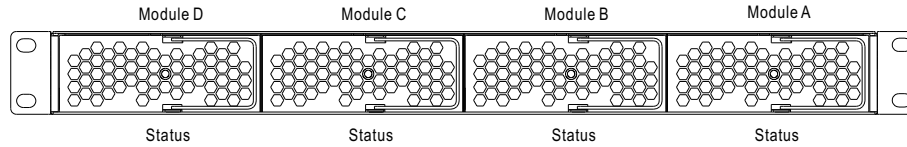

Figure 5-1 DHP System assembly diagram
- ⊙ Insert 1 ~ 4 pieces of DRP/DBR-3200 (with the same output voltage and current) into the DHP-1U (refer to Figure 5-1)